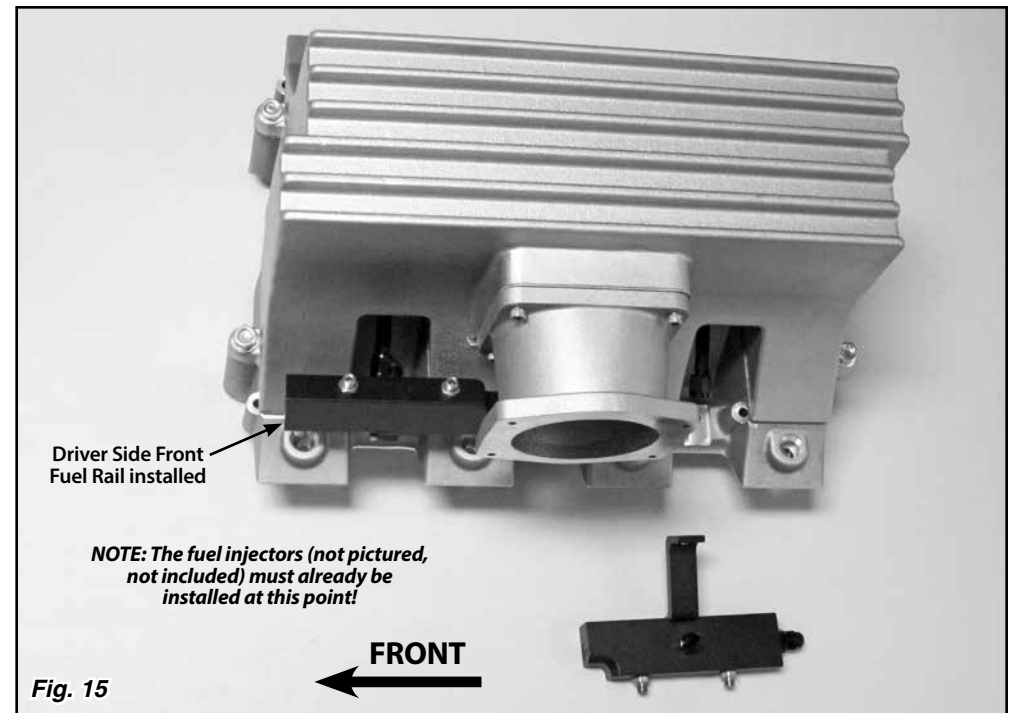

Fig. 15
Step 16: Position the injectors to properly orient the wiring plugs. Apply silicone lubricant to the bottom injector O-rings, and insert the injectors into the injector bosses in the lower manifold by applying gentle downward pressure on the fuel rail. **Fig. 15**
- Step 19:** Tighten the 1/4"-20 x 3/4" socket head bolts holding the fuel rail brackets in two steps. Tighten to 7 lb.-ft. for the first step, and to 12-15 lb.-ft. for the second step. Then, tighten the -4 AN fuel hard line nuts. **Figs. 15, 16, 17, and 18**